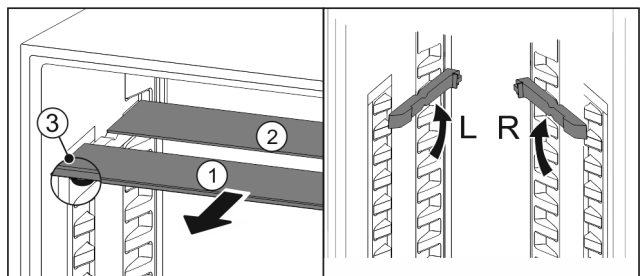

Fig. 167
- ▶ Pull the glass panels out Fig. 167 (1) from the front, one at a time.
- ▶ The glass panel Fig. 167 (1) and trim strip are at the front.
- ▶ The stops Fig. 167 (3) point down.